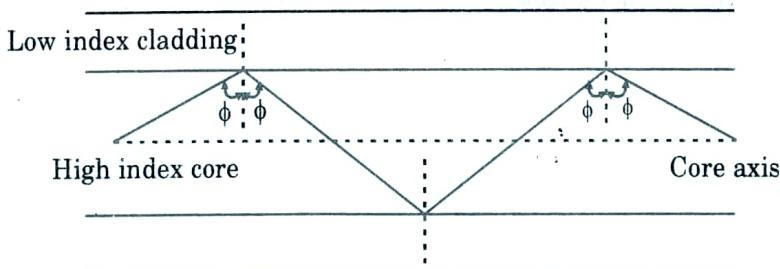

Fig. 1.5.2. The transmission of a light ray in a perfect optical fiber.
- Fig. 1.5.2 explains the transmission of a light ray in an optical fiber via a series of total internal reflection. The ray has an angle of incidence ϕ at the interface which is greater than the critical angle and is reflected at the same angle to the normal. This light ray is known as meridional ray.